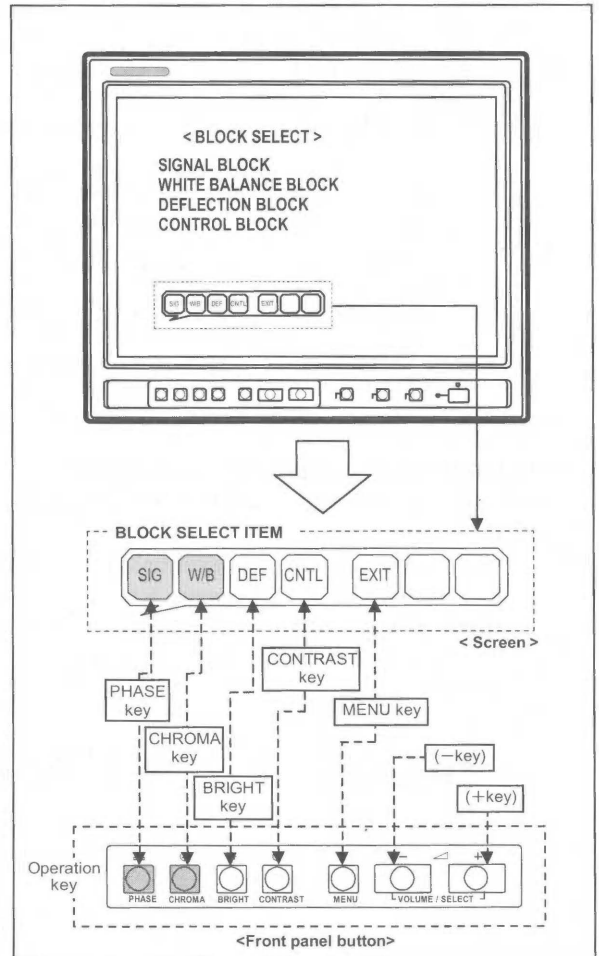

Fig. 8
- ① Press the **CHROMA** key from the <BLOCK SELECT> screen (SERVICE MENU) (Fig. 8).